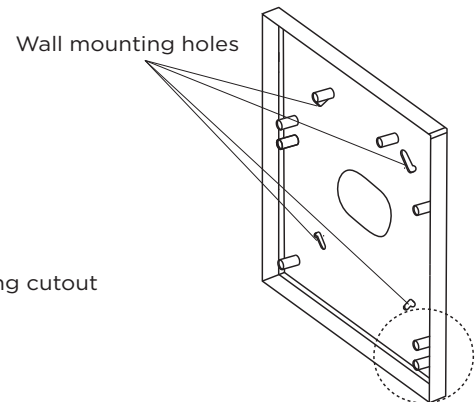

Figure 3: Backbox Orientation
4. Remove the mounting template and secure the backbox to the wall with the four #6 1" provided screws. Use wall anchors as needed. Refer to Figure 3.